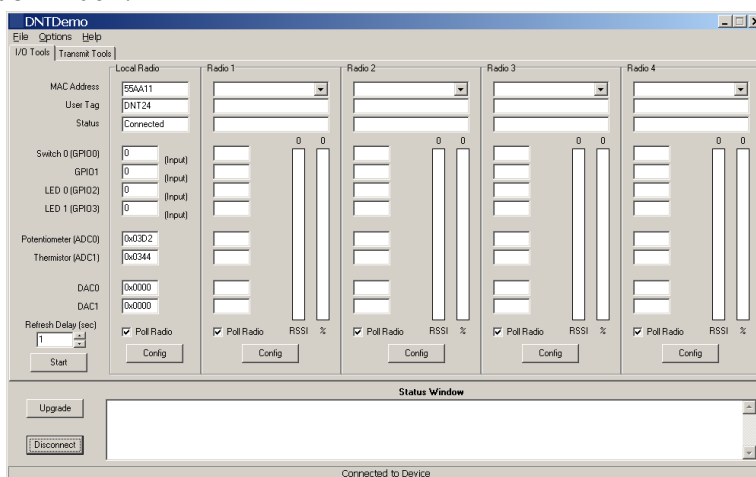

Figure 6
6. At this point the Demo will collect data from the *Base*, filling in the *Local Radio* column on the Demo window as shown in Figure 6.